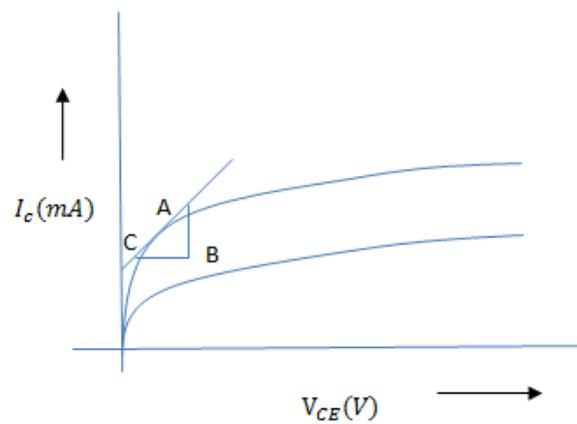

Figure 9.3
6. The graph of V_{CE} v/s I_C is plotted for both the values of I_B (as in Fig 9.3). Slope is found at the increasing portion of any one curve.